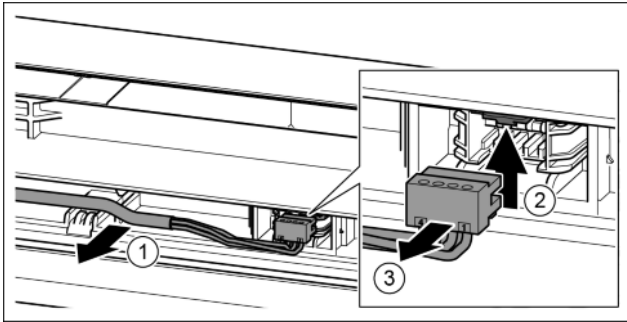

Fig. 21
- ▶ Carefully remove the grey cable from the guide in the door. Fig. 21 (1)
- ▶ Press the lug upwards. Fig. 21 (2)
- ▶ Carefully remove the connector. Fig. 21 (3)